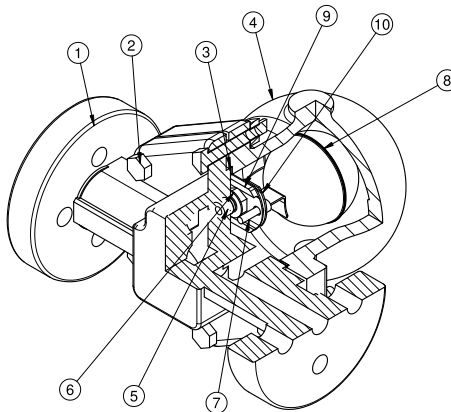

Figure 1 : Forbes Marshall Air Eliminator
4. Product Working Principle: [Refer figure 1]
7.4 Maintaining/ Replacing the main valve assembly: (Refer to Figure 1)